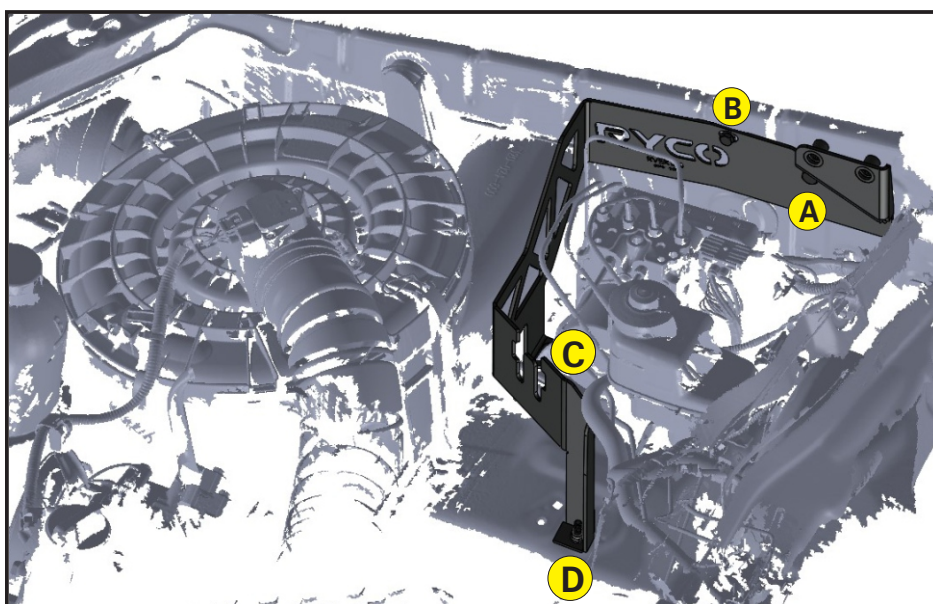
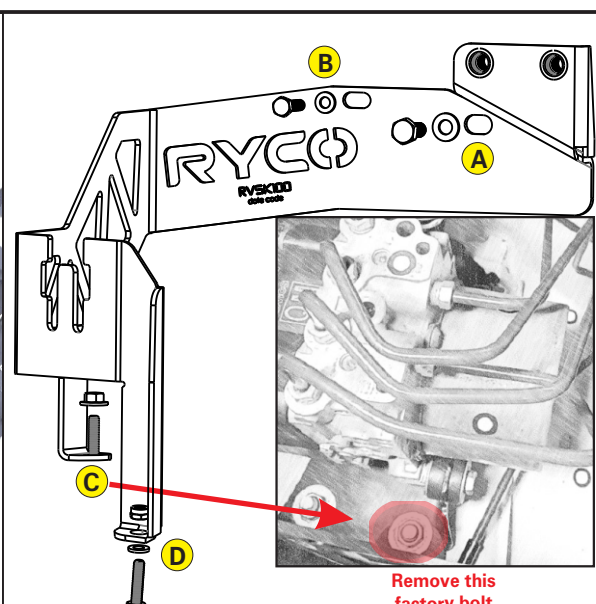

FIG. 1 BRACKET IN ENGINE BAY
FIG. 2 BRACKET INSTALLATION
1. In Fig. 2, locate the factory nut and washer that mounts the factory ABS module (Note: Only remove the one closer to the engine as highlighted), between the air box and brake fluid reservoir. Position the bracket in the engine bay as per Fig. 1, engaging Point **C** on the bracket onto the stud and loosely refit the factory nut and washer back onto the stud.
4. Tighten all fasteners as per Fig. 2.